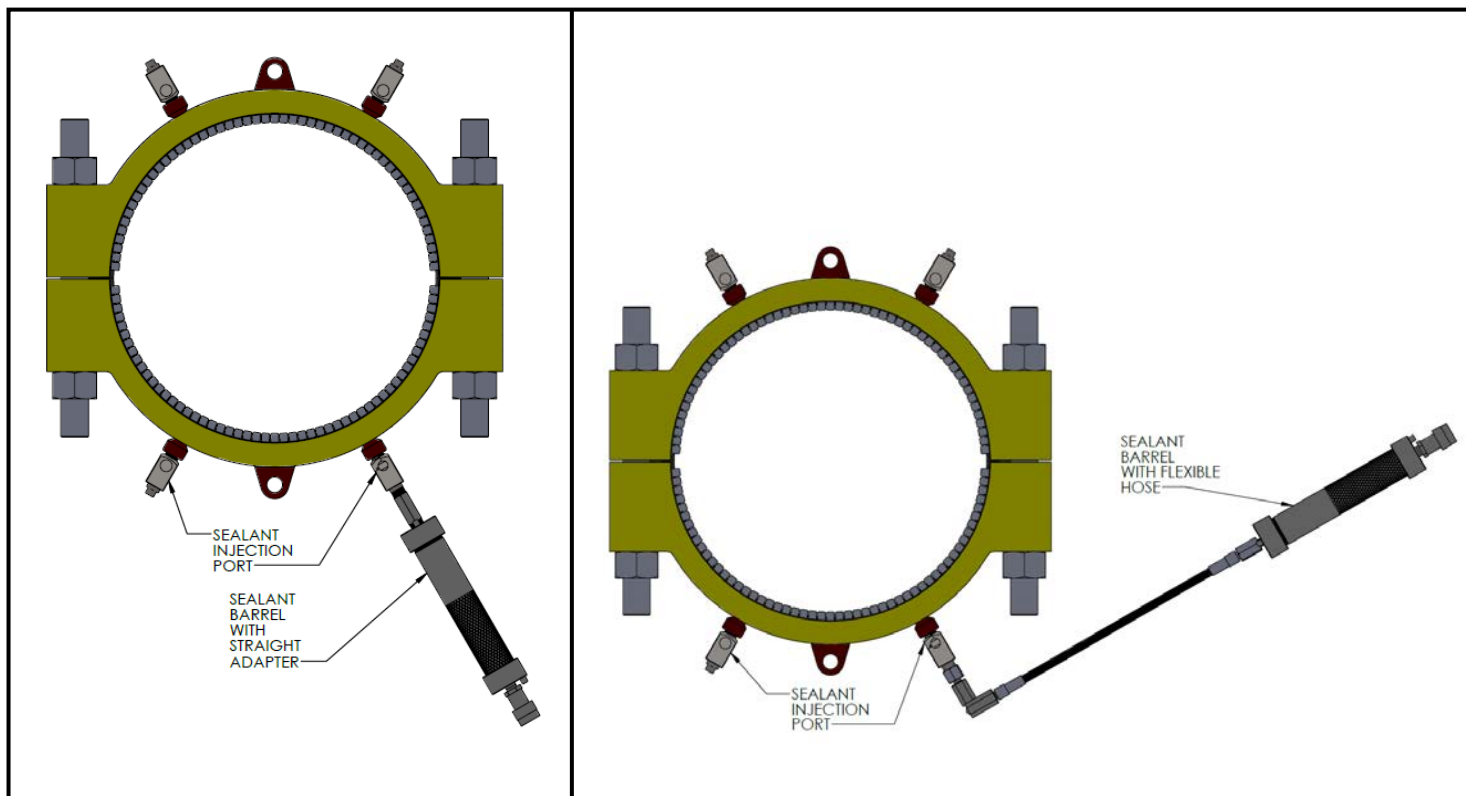

Figure 5
2. During installation of the PLIDCO Flange+Repair Ring, make sure to have one sealant injection port as close to the top as possible. This will insure the annulus of the PLIDCO Flange+Repair Ring is completely filled with sealant as all the air or liquid is pushed out of the top of PLIDCO Flange+Repair Ring. (See Figure 5)
sealant into the closed sealant injection port. Once pressure starts to build on the pump, open the sealant injection port to allow sealant to flow into the fitting. (See Figure 5)
2. During installation of the PLIDCO Flange+Repair Ring make sure to have one sealant injection port as close to the top and as close to the leak as possible but not directly over the leak. This will show when the annulus of the PLIDCO Flange+Repair Ring is completely filled or that sealant has reached the top of the fitting. (See Figure 5)
4. Connect a sealant barrel to the closed sealant injection port on the bottom or farthest injection port away from the active leak. If clearances are an issue, use the flexible hose adapter. Start to inject sealant into the closed sealant injection port. Once pressure starts to build on the pump, open the sealant injection port to inject sealant. (See Figure 5)